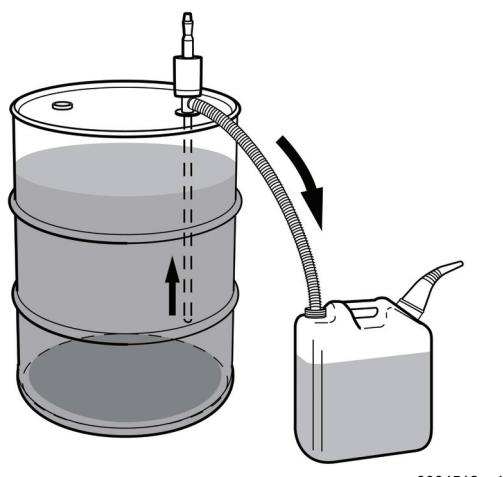

Figure 3-17
- Pump out only half-way to avoid pumping out any contaminates or foreign matter in the bottom of the tank (**Figure 3-17**).